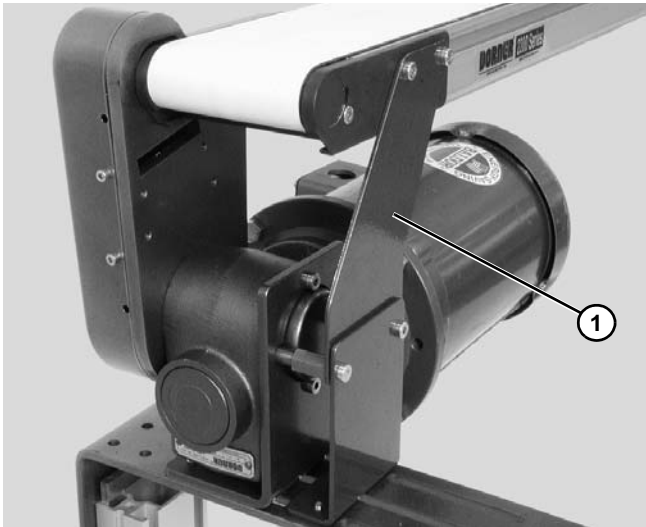

Figure 60
- If equipped with a heavy load drive package, install drive support bracket (**Figure 60, item 1**).